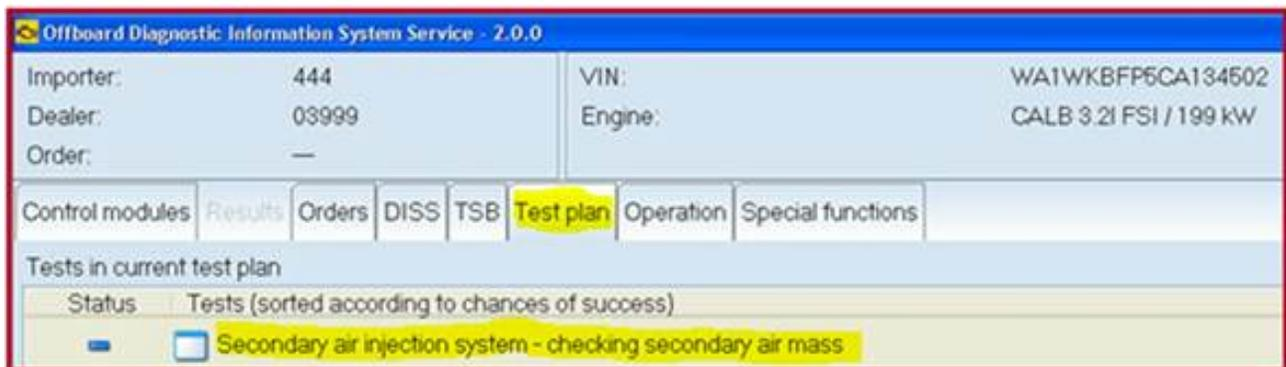

Figure 1. Selecting the test plan in ODIS.
2. In the ODIS tester (minimum ODIS 2.0.1 / 19.52), go to *Test Plan >> Secondary air injection system - checking secondary air mass* (Figure 1).